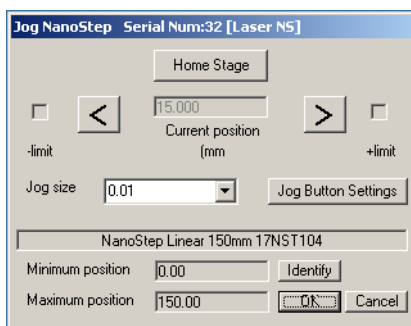

Fig. 5.2 Setting Parameters
- 8) RH click on the relevant module icon to access the 'Jog NanoStep' window – see Fig. 5.2 and set up the Jog size. Any values set can be overridden in the software.